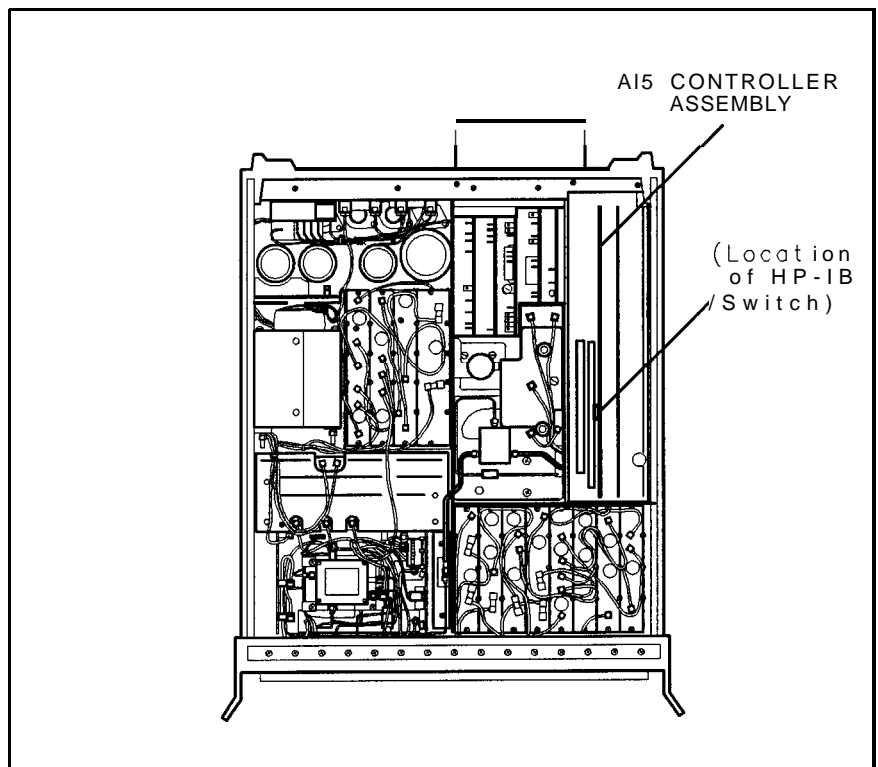
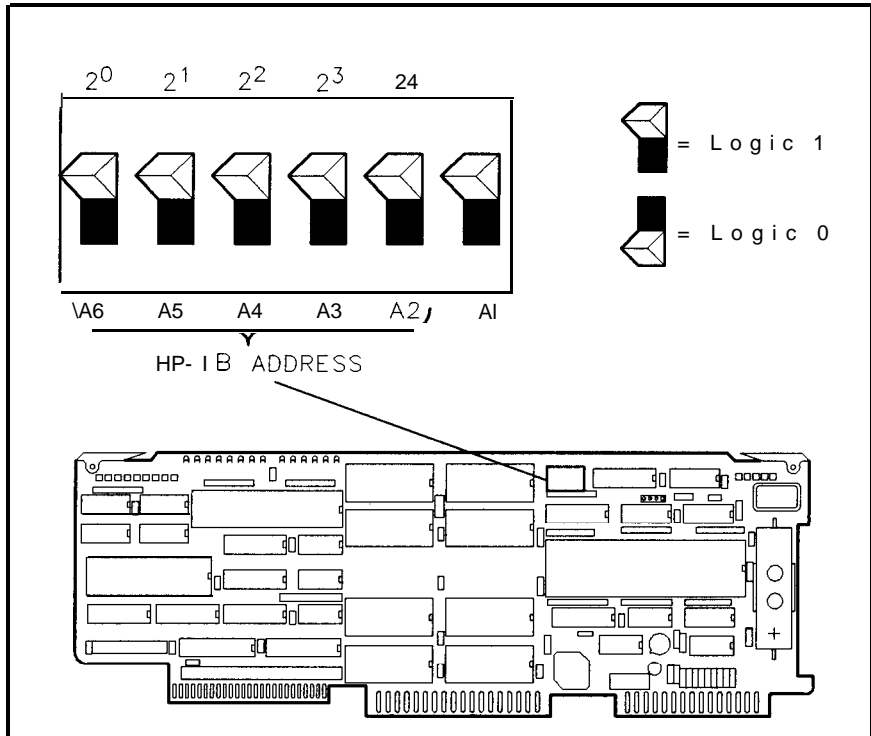

Figure 2-16. Location of A15 Controller Assembly
Figure 2-17. Address Switch (Shown In Factory Preset Position)
4. Remove the cover from the A15 controller assembly. See Figure 2-16 to locate the assembly.
- Locate the address switch **A15SW1** as shown in Figure 2-16 and Figure 2-17. Change the switch's setting according to the information given below.
The switch comprises six segments, A1 through A6. A1 must always be set to logic 1. Each of the remaining five segments, A2 through A6, corresponds to one of the digits of a 5-digit binary equivalent of the address. See Figure 2-17. The switch is preset at the factory to binary 11111 (decimal 31). This is a special code which commands the instrument to use the last input address (stored in memory) either from the front panel or from HP-IB.